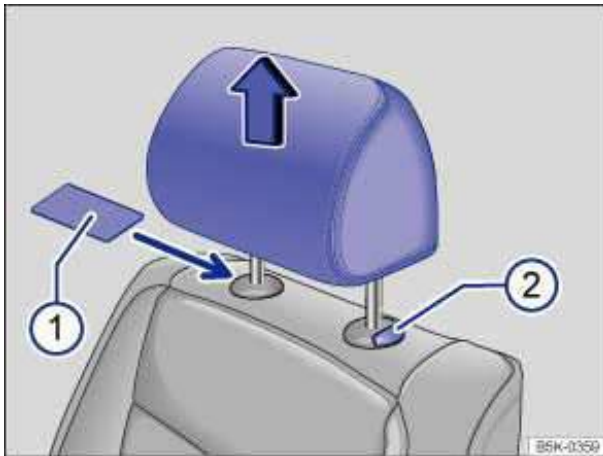

Fig. 35 Removing the head restraints.
- Slide a flat object, such as a plastic credit card, underneath the right side of the cap on the right-hand seat guide rod ⇒ fig. 35 \(1\) to unlock the head restraint.
- To release the left-hand guide rod, press button (2) in (towards guide rod) and hold.
- Pull the head restraint out completely while holding button (2).